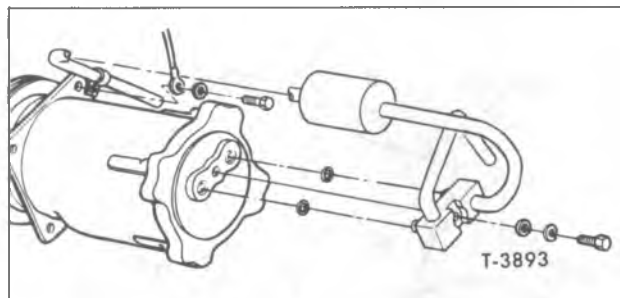

Figure 24—Compressor Connector Block and Muffler
**MUFFLER AND CONNECTOR BLOCK****REMOVAL (Fig. 24)**
**INSTALLATION (Fig. 24)**